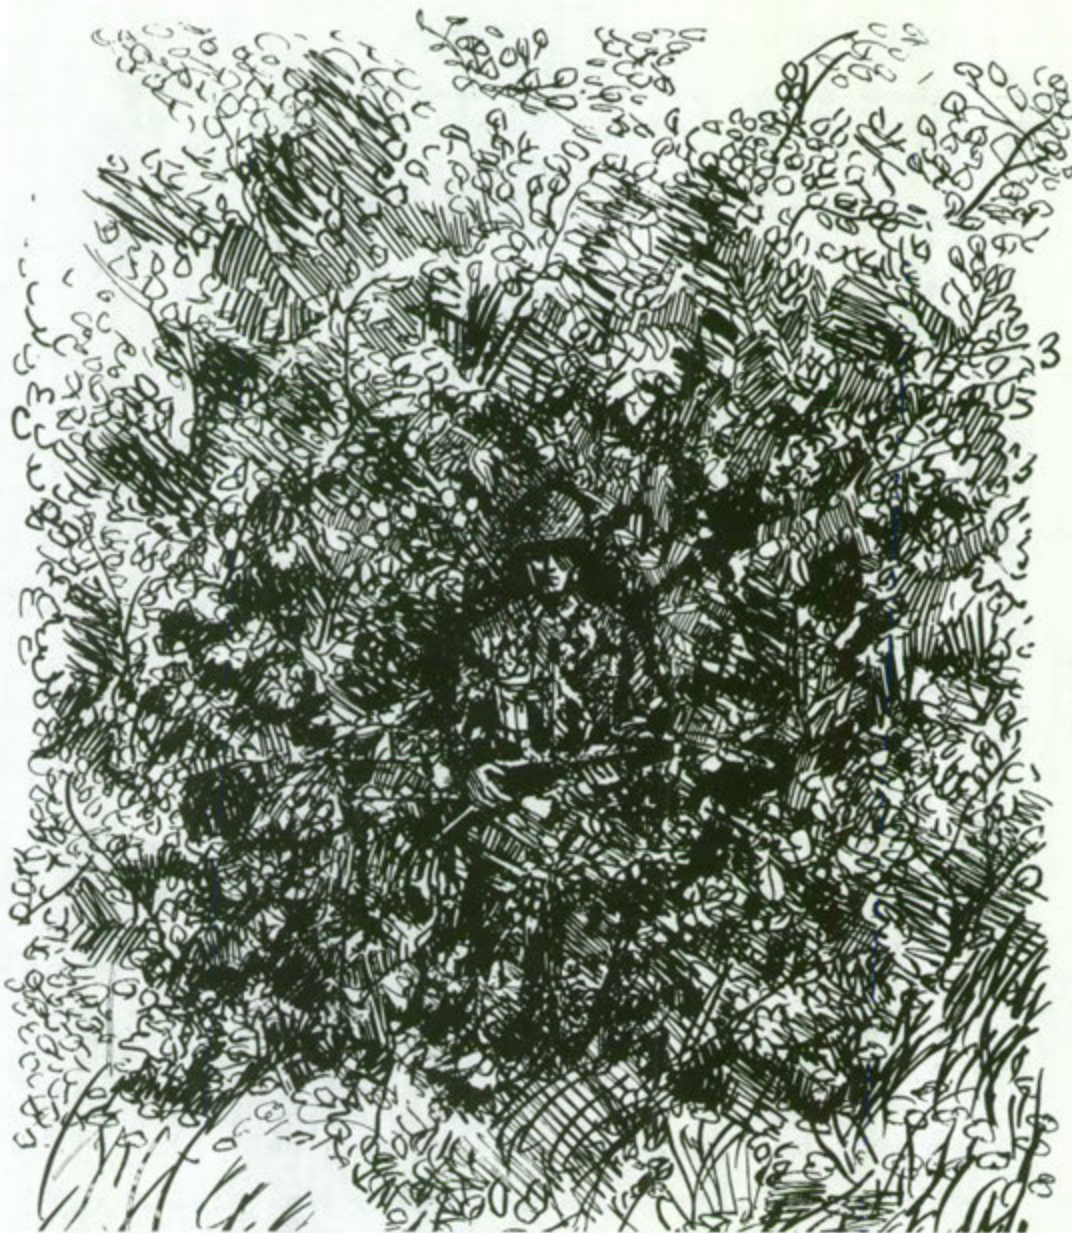

Figure 5.
(1) You can make a uniform blend with the terrain by dyeing it or by attaching bow ties of colored burlap.
(2) A mixture of mud and grease or crankcase oil may be used to stain your uniform.
(3) When operating in snow-covered terrain, you can make a snowsuit from a sheet, mattress cover, or other white cloth.
6. To blend with your surroundings (figure 5):